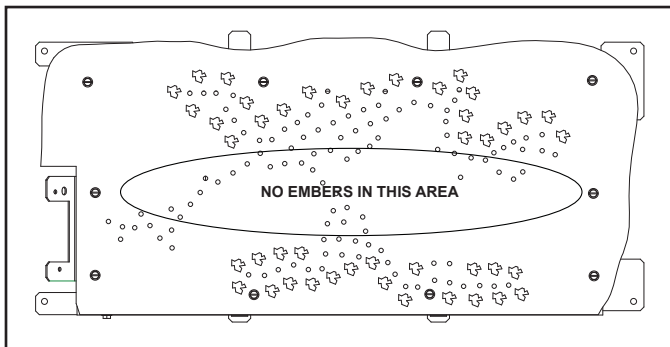

Figure 11.23 Ember Placement
- Place dime-size pieces of Glowing Embers® just in front of the port trail, but not on or in between the ports. See Figure 11.23. Embers are to be placed adjacent to burner port holes. Care should be taken so that the ports are not covered. Failure to follow this procedure will likely cause lighting and sooting problems.